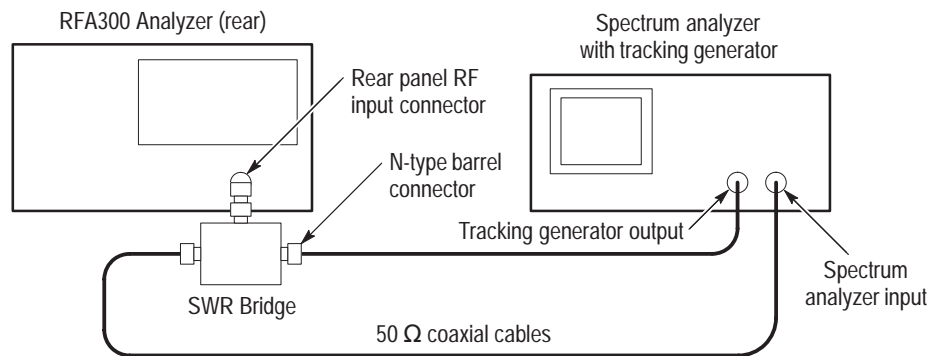

Figure 4–12: Return loss test setup
1. Set up the test equipment as shown in Figure 4–12. Do not connect the SWR bridge to the RF input of the RFA300.